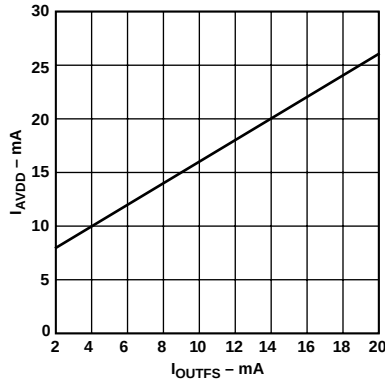

Figure 19. I_{AVDD} vs. I_{OUTFS}
The power dissipation, P_D , of the AD9708 is dependent on several factors, including: (1) $AVDD$ and $DVDD$, the power supply voltages; (2) I_{OUTFS} , the full-scale current output; (3) f_{CLK} , the update rate; (4) and the reconstructed digital input waveform. The power dissipation is directly proportional to the analog supply current, I_{AVDD} , and the digital supply current, I_{DVDD} . I_{AVDD} is directly proportional to I_{OUTFS} , as shown in Figure 19, and is insensitive to f_{CLK} .